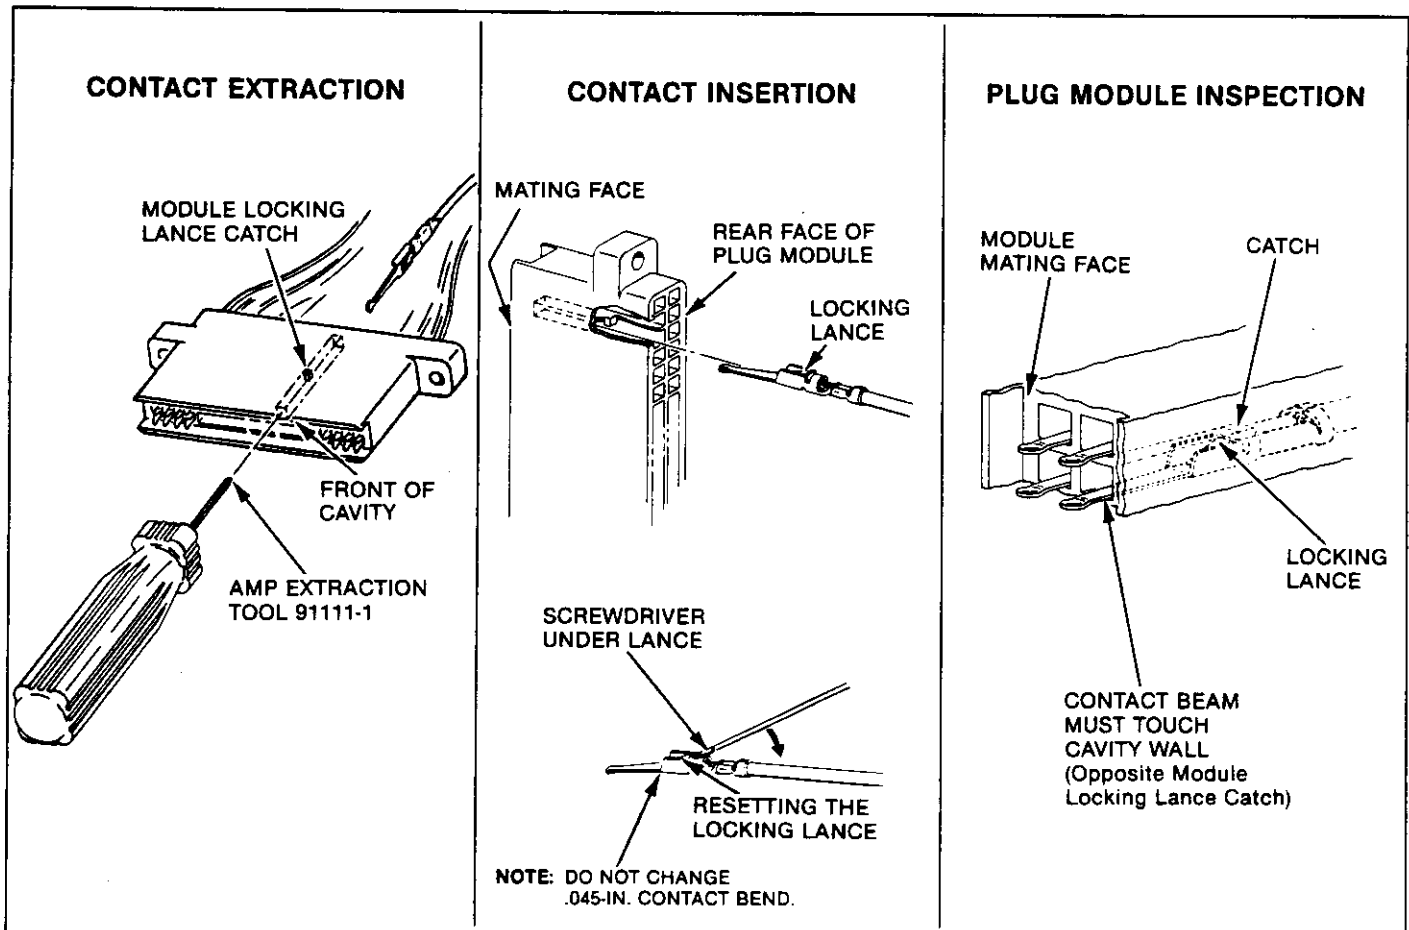

Fig. 2
E. Contact Replacement (Figure 2)
CAUTION *Do not change the preformed .045-in. bend in contact beams during crimping and installation. Make sure that plug contact beams are preloaded against the module cavity wall opposite from the locking lance catch. See Figure 2. If contact beam does not touch cavity wall, replace the contact in order to ensure adequate contact pressure (normal force) when the connector cam is actuated.*
Plug module contacts are designed for multiple insertions and extractions. If a contact does not lock on insertion, reset the lance with a screwdriver-type tool. The lance should be set level with the sides of the contact as shown in Figure 2. After insertion, inspect the mating face and make sure that contact beams touch the cavity wall opposite the locking catch.